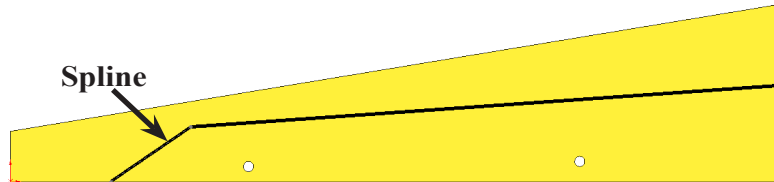

Fig. 8
Step 5. Click **Spline**  (S) on the Sketch toolbar.
Step 6. Draw **two point** spline between front endpoint of line and bottom horizontal edge, **Fig. 8**. **Right click drawing and click Select** from menu to end spline.